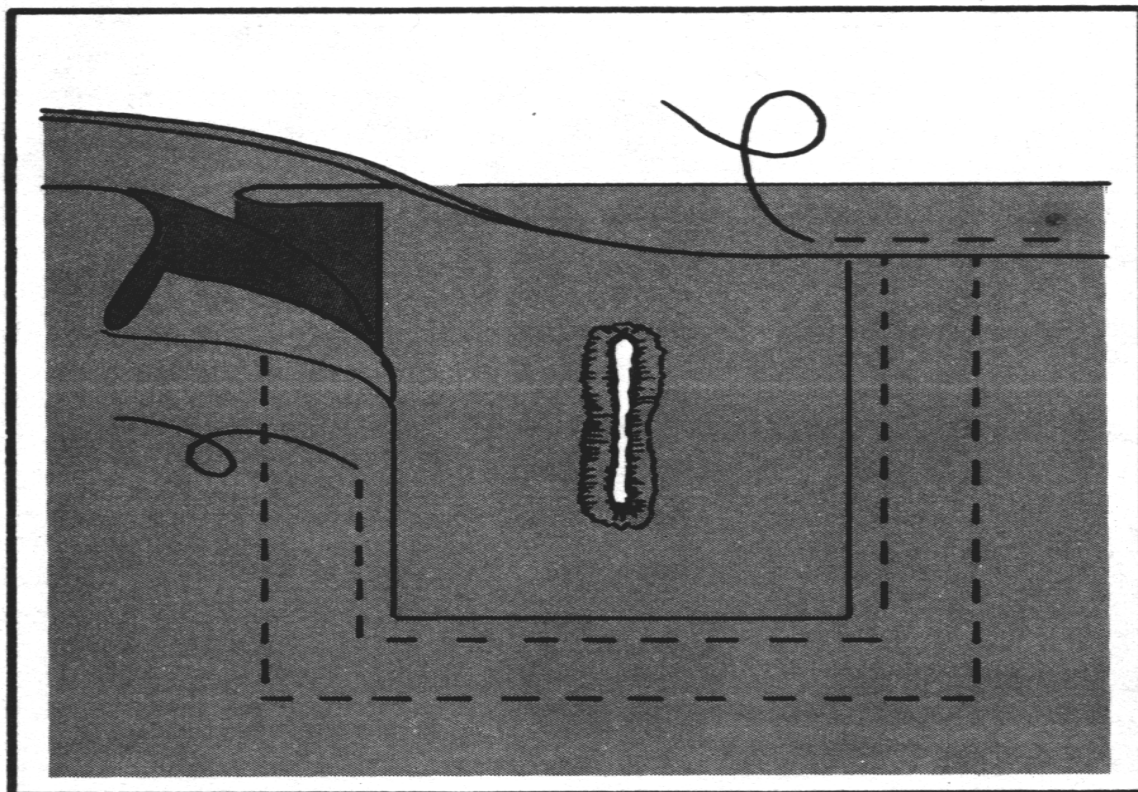

Figure 9-18. Felled patch method
a. Felled Patch Method. To make a buttonhole using the felled patch method (Figure 9-18)--
(1) Cut a patch from matching canvas. If possible, use a salvaged piece of canvas that has a buttonhole in it.
(2) Follow the directions on page 9-4 to apply a felled canvas top patch, but finish the edge of the opening with a binding.
(3) If the patch does not have a buttonhole, make one by cutting a slit as long as the original buttonhole. Reinforce the raw edges by stitching around the slit using the buttonhole stitch.